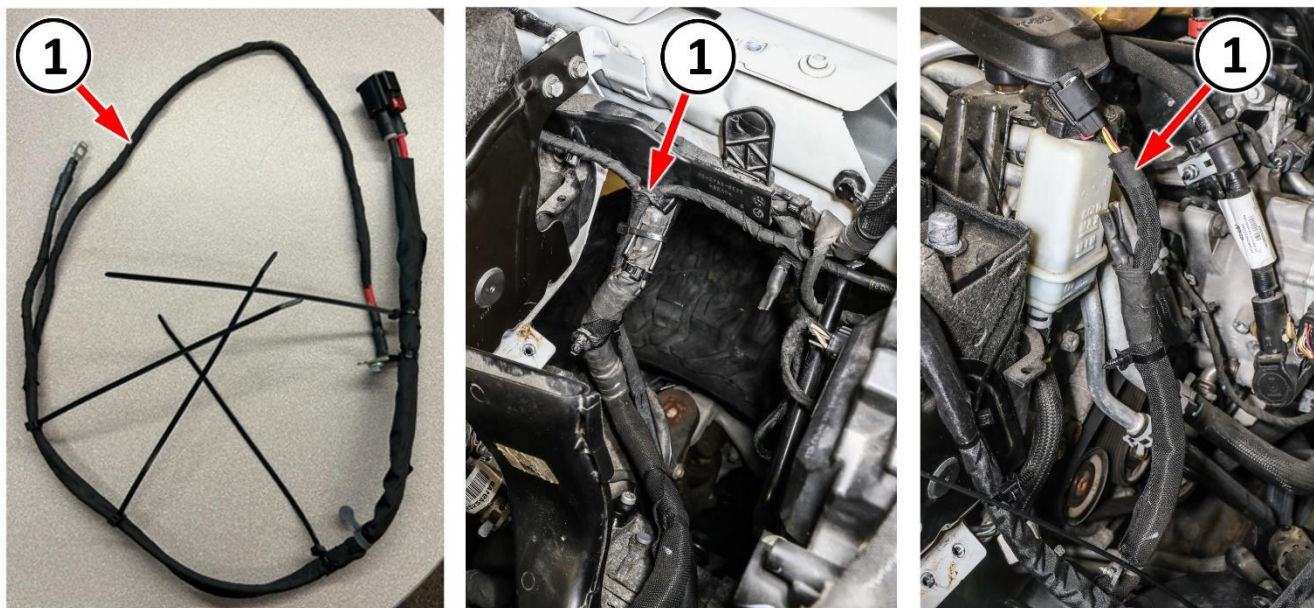

Figure A14 – EHPS Overlay Harness
43. Obtain the **NEW** EHPS overlay harness and position it in the engine compartment following the routing path of the original harness (Figure A14).